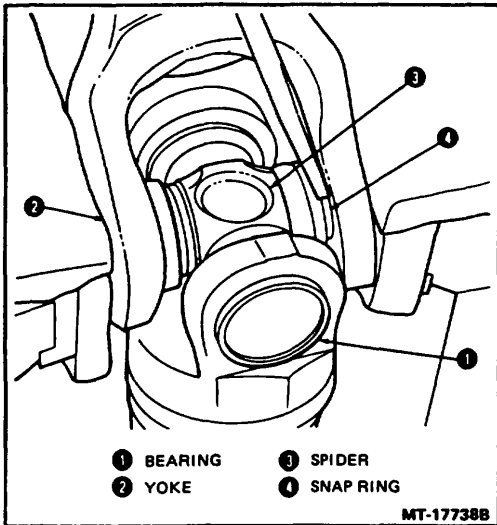

Figure 10 - Snap Ring Removal
1. Place the universal joint in a vise as shown in Figure 10. Remove the snap rings retaining the bearings in the yoke